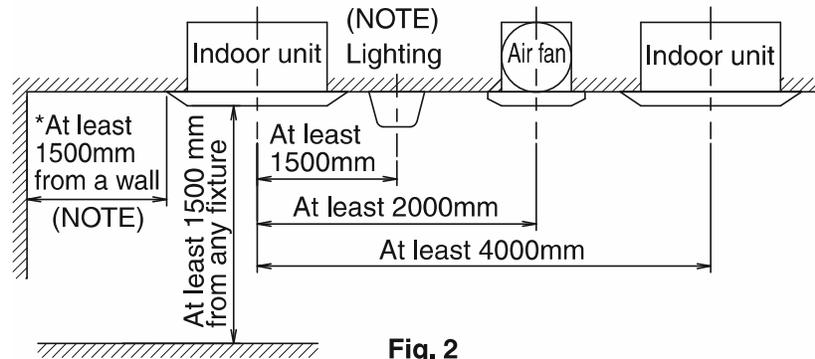

Fig. 2
- Any vents, light fixtures, or other appliances which may disturb the airflow might cause the top side to become dirty if located too nearby, so follow **Fig. 2** when installing. Note)
(2) Ceiling height